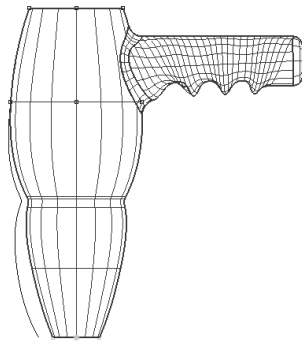

Figure 11-88 Model after dynamic modification
2. Drag the cursor toward the model with the left mouse button to scale down the modifier geometry; the lower portion of the model is updated accordingly, as shown in Figure 11-88.